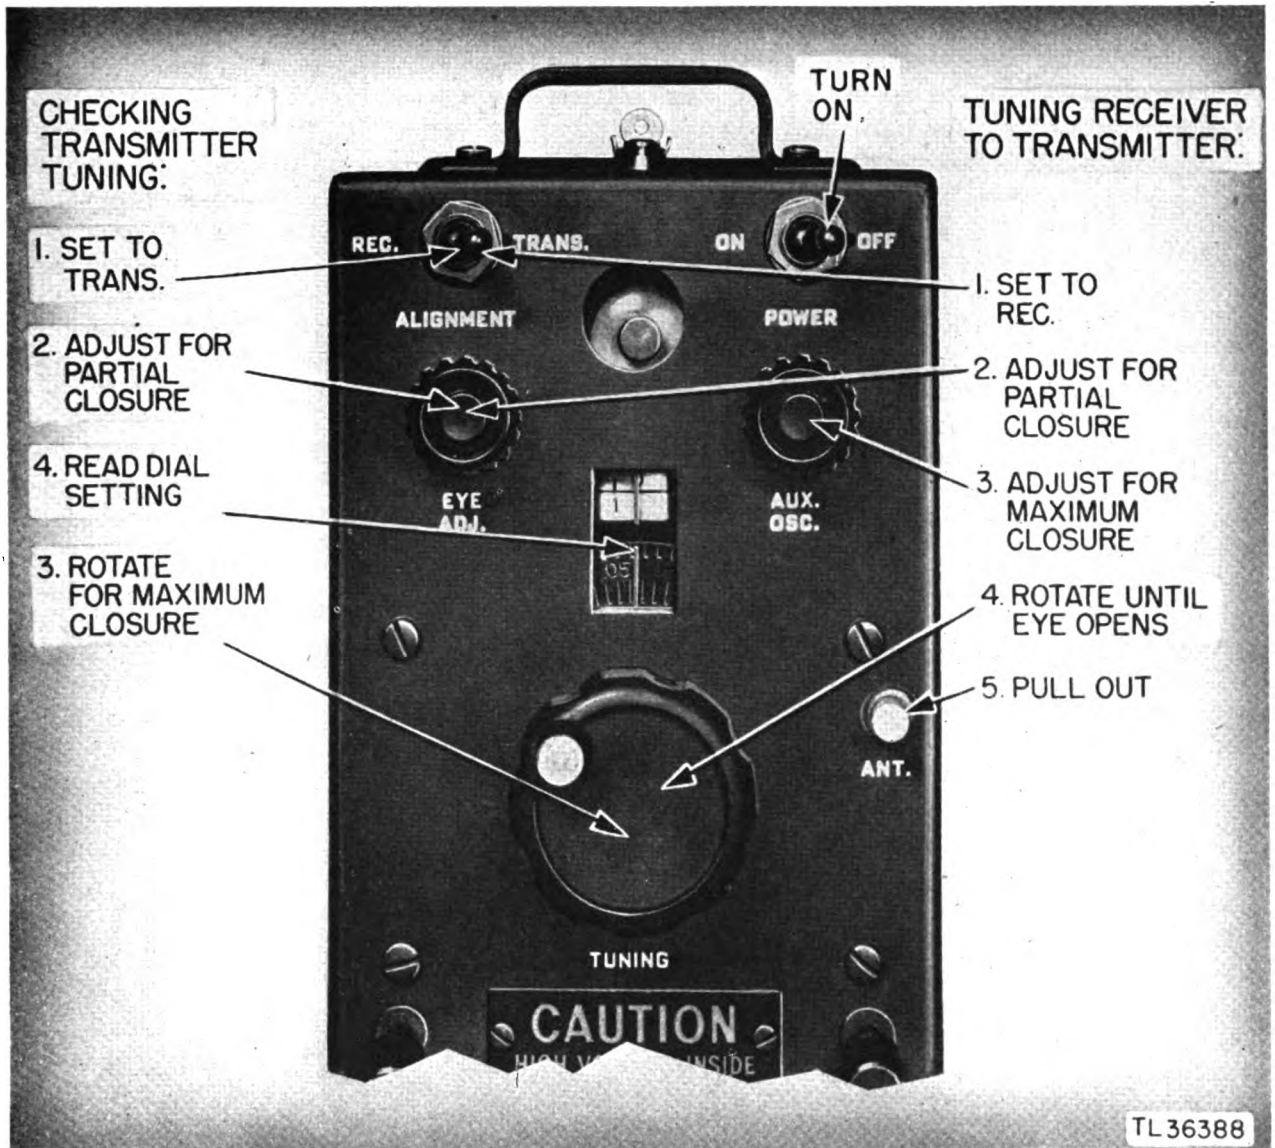

Figure 75. Wavemeter adjustments.
b. Snap the POWER switch on the wavemeter (fig. 75) to the ON position and allow it to warm up for at least 30 seconds.
In tuning the receiver to the frequency of the transmitter, the steps given in paragraphs 54 and 55 are assumed to be completed. The following steps continue from that point (figs. 75 and 79).